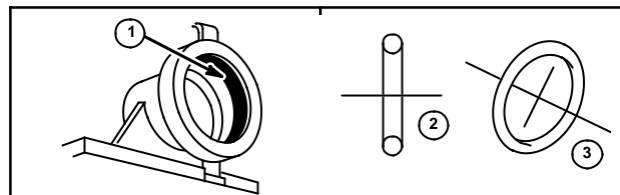

Fig. 42
1. Place "O"-ring (1) in groove in throttle bore, (Vacu-Jet) Fig. 42. Cross section (2), new "O" ring (3), Fig. 42.